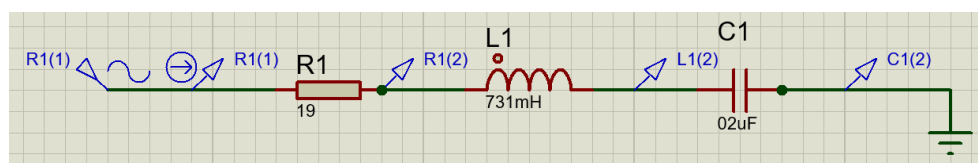

Figure 1 – RCL Series Circuit Diagram with Component Values and Probes.
Figure 26 illustrates the voltage gain across each component. This can be calculated by using the voltage probes (R1(1), R1(2) and L1(2)) shown in Figure 1.
Calculating the power across the resistor by selecting the value from R1(2) shown on Figure 1 and seen in effect on Figure 29.